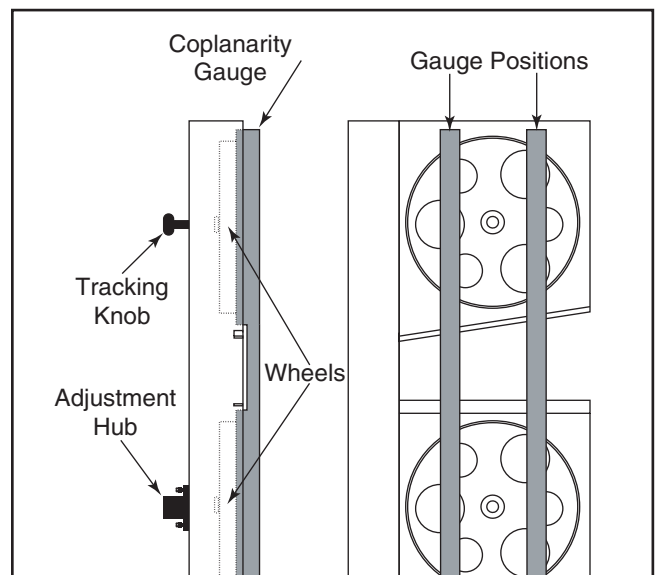

Figure 82. Checking for coplanarity.
7. Place your coplanarity gauge up against both wheels in the positions shown in **Figure 82**.